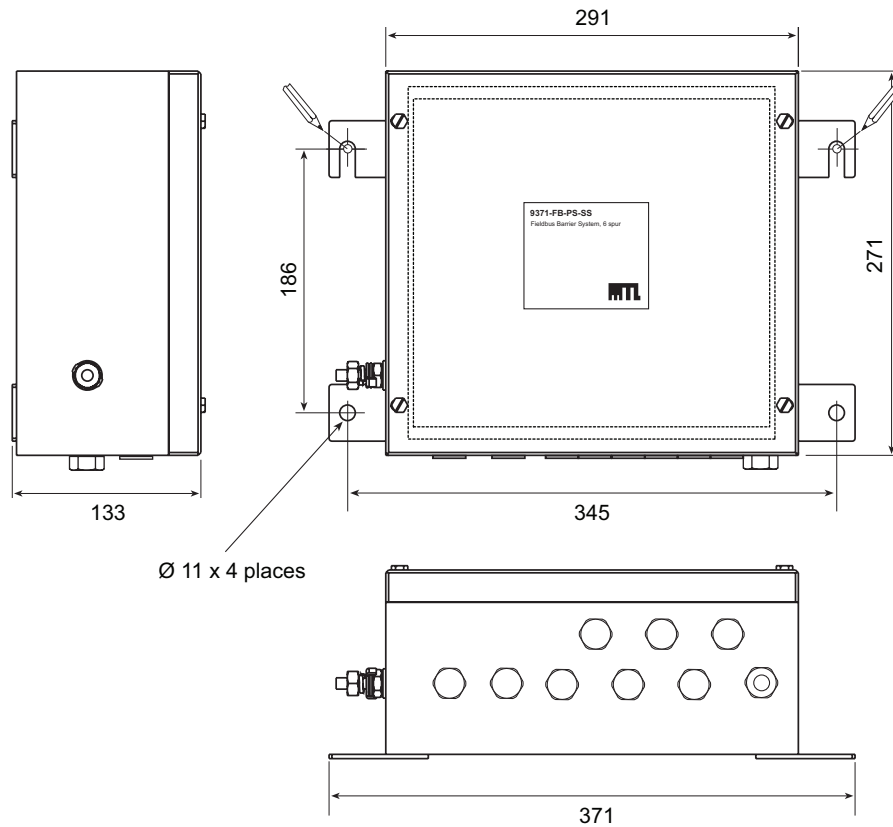
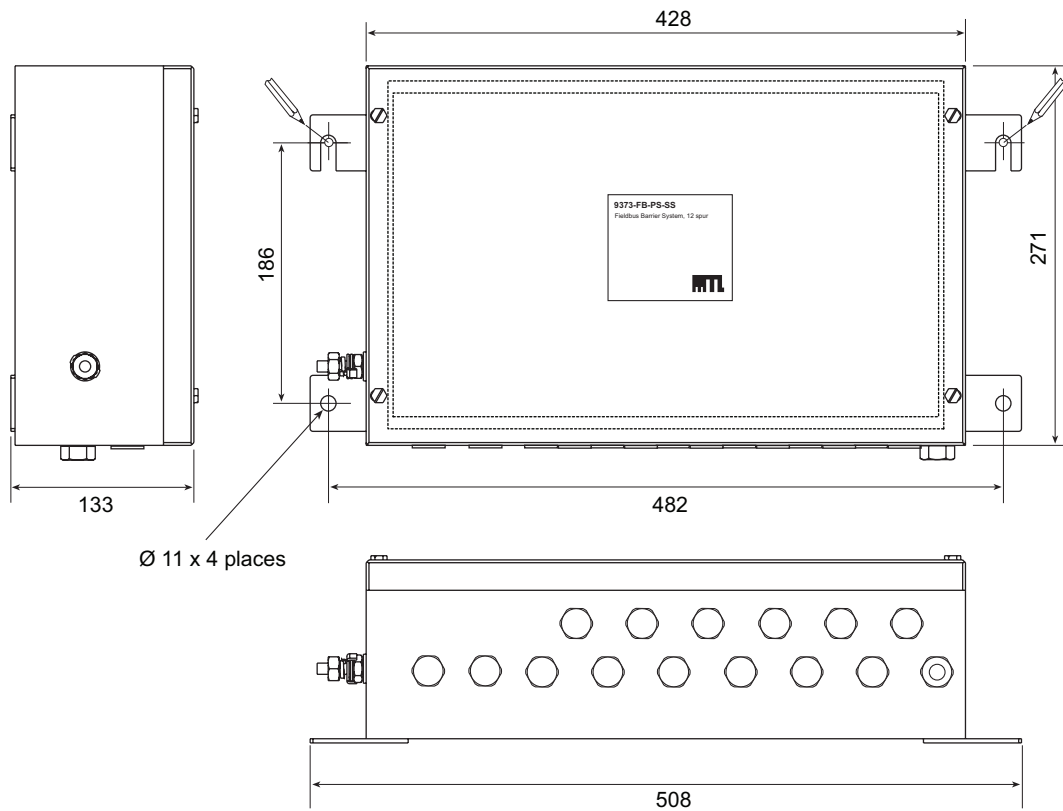

Figure 3.1 - External dimensions and mounting hole positions for the 6-way enclosure (9371-FB-XX-SS)
Figure 3.2 - External dimensions and mounting hole positions for the 12-way enclosure (9373-FB-XX-SS)
See Figures 3.1 and 3.2 for the dimensions, fixing locations and cable gland positions for both enclosure models.
- c) The enclosure is designed for mounting on a vertical surface, with the cable entry at the lowest point, as shown in the upper part of Figure 3.1 or Figure 3.2.
- e) All the necessary gland holes have been prepared in the enclosure. One has a breather fitted and the others are fitted with appropriate blanking plugs. Where the blanking plugs are replaced by cable gland, the fitted glands must be Ex e certified and have an ingress protection (IP) rating that maintains the overall rating of the enclosure.
- d) Prepare holes in the mounting surface, on the centres shown in Figure 3.1 or 3.2, to accept suitable screws/bolts for mounting.
The enclosure can be used as a template. With help from at least one other person, hold it in the position required and mark the surface through the top slotted lugs only (as shown in Figures 3.1 and 3.2). Open up these hole positions to a suitable size and depth.